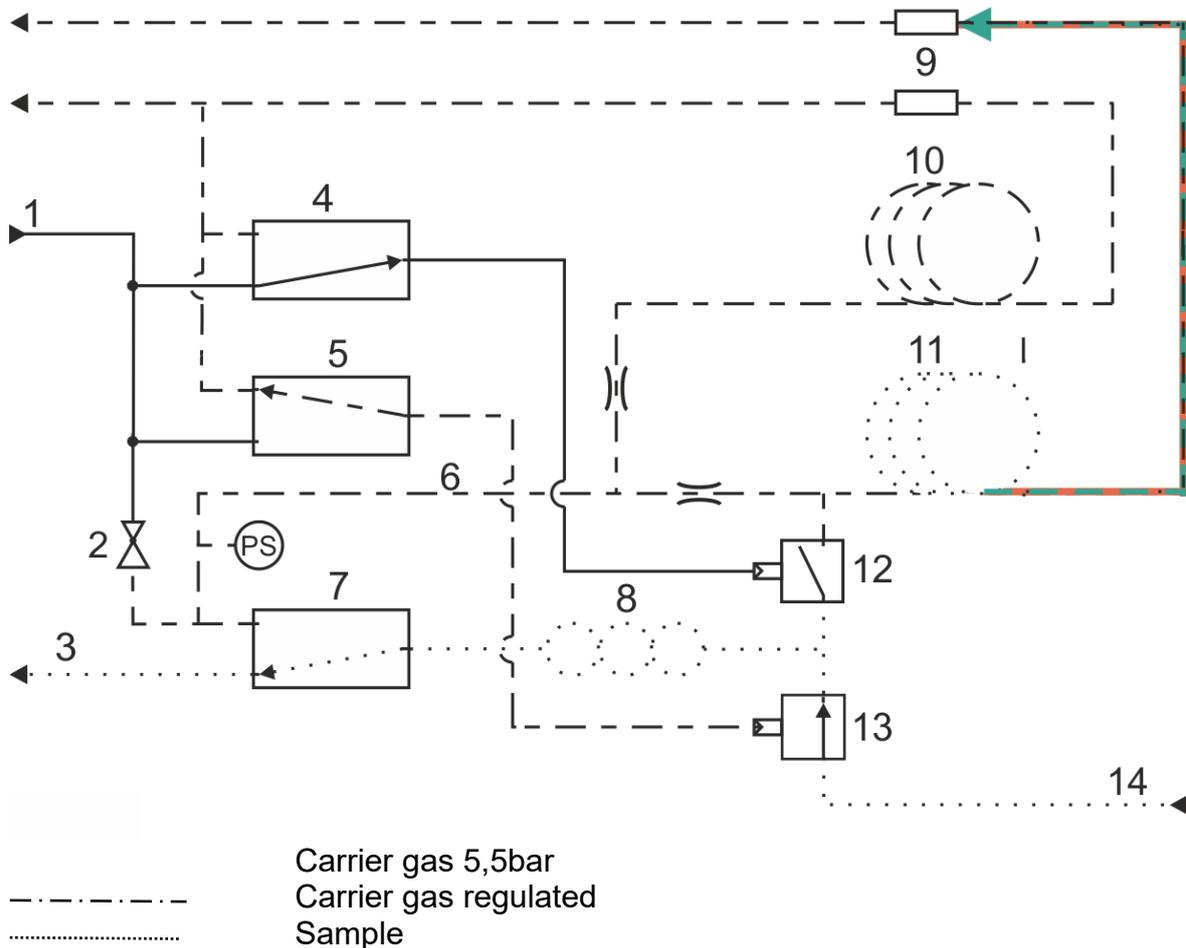

Figure 13: Analysis
The following four diagrams *Figure 10: Flushing (default position)*, *Figure 11: Application of pressure*, *Figure 12: Injection* and *Figure 13: Analysis* show the basic analysis sequence. The process is only shown for one channel for the purpose of simplification.
- Analysis (Figure 13: Analysis)